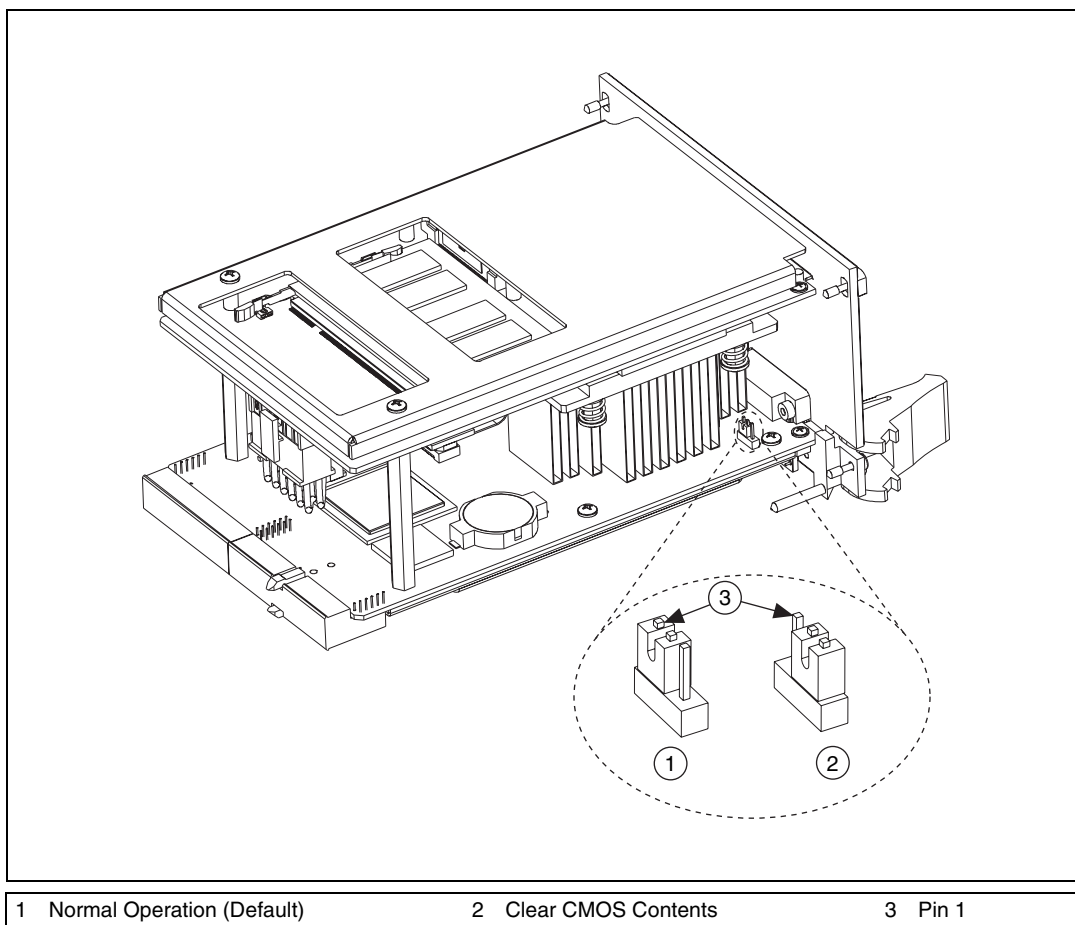

Figure 5-1. Clearing the CMOS Contents
3. Move the jumper on W7 from pins 1–2 to pins 2–3 as shown in Figure 5-1.